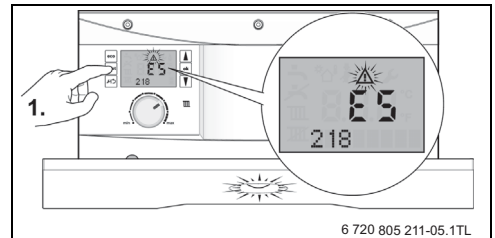

Fig. 8
1. A fault condition is indicated by a flashing blue operation/fault light and an triangular alert symbol on the display. A flashing **fault code** is also displayed, see figure 8.
- ▶ Make a note of these fault codes, in the table below as an example see figure 8, fault codes E5 and 218.